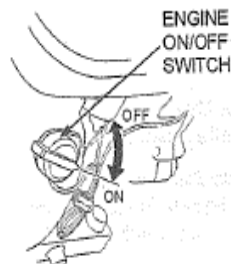

Figure 12. Engine ON/Off Switch
2. Place the **Engine ON/OFF switch** (Figure 12) in the "ON" position.
2. Place the **Engine ON/OFF switch** (Figure 12) in the "OFF" position.